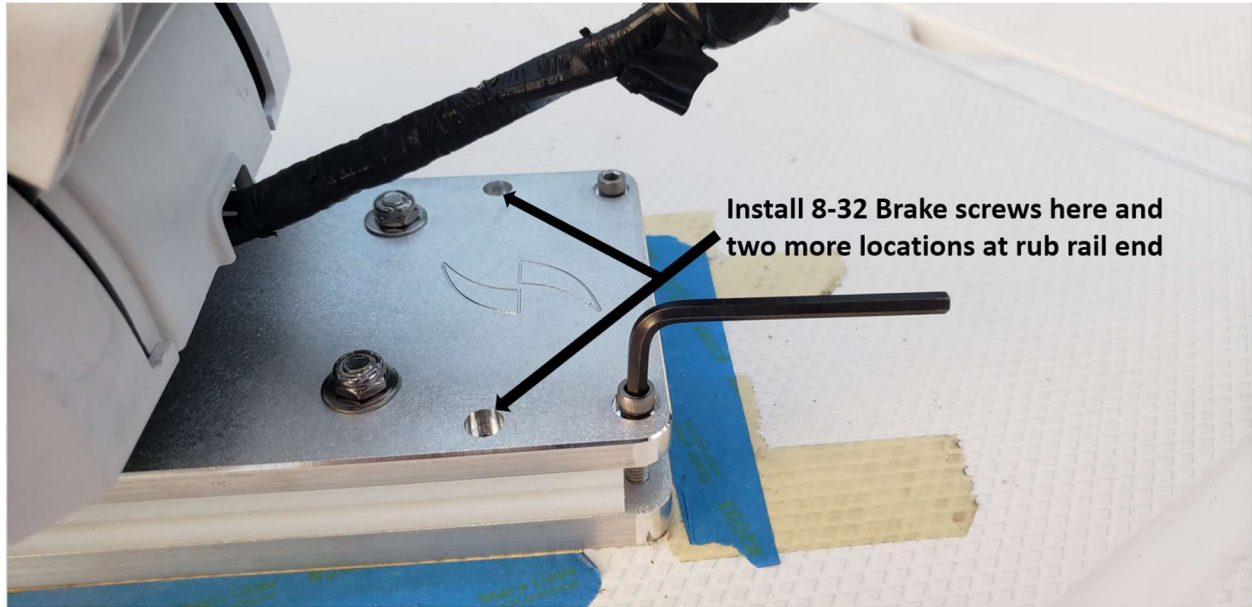

Figure 15
- Figure 15 shows the two inboard (retracted) brake screw locations.